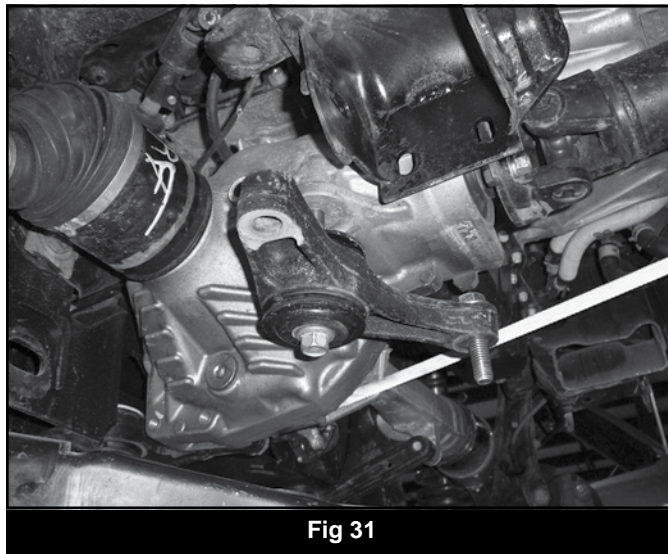

Fig 29
36. With the help of an assistant and an appropriate jack, raise the differential up to the new front crossmember. Align the holes in the factory differential mount brackets with the corresponding holes in the crossmember. Loosely fasten the differential (Fig 29) to the front crossmember with 9/16" x 3-1/2" bolts, nuts and washers along with the large lower factory washer. (BP 647).